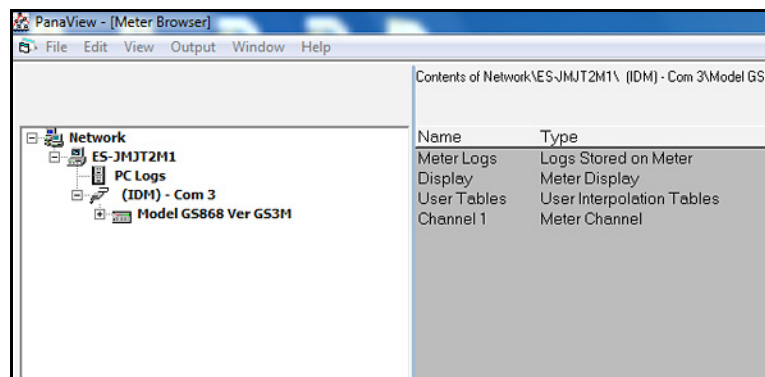

Figure 54: The Meter Branch
- Fully expand the *network tree* and highlight the chosen meter (see Figure 54 below).